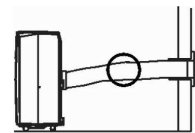

FIG.11
- Avoid kinks and bends in the exhaust hose. If expelled air is not exhausted smoothly, it will build up in the hose and lead to unit overheating and shutting down. Refer to Fig 11 & 12 for correct position.